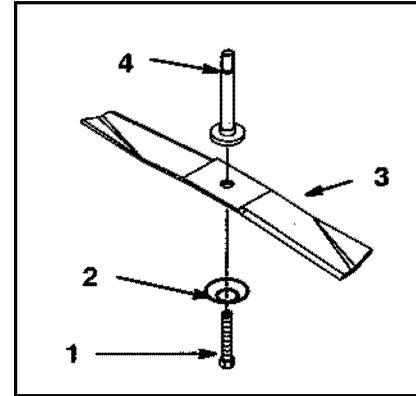
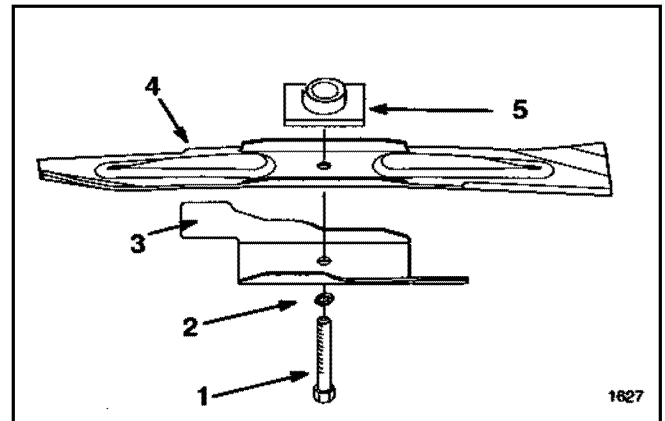

Figure 3
Figure 4
5. Grasp the end of the blade using a rag or a thickly padded glove. Remove the blade bolt (or nut) and the other component (Figure 3 and Figure 4).